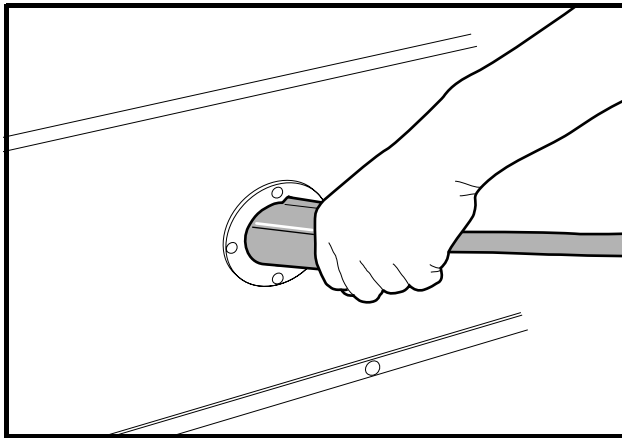

Figure 22 Correct Insertion of Charger DC Plug
- Do not rock or bend the plug. To connect the charger plug to the vehicle receptacle, grasp the plug handle and push the plug straight into the receptacle (Figure 22, Page 41).
Insert the charger DC plug into the vehicle receptacle. The charger will turn on two to ten seconds later (**Figure 22**).